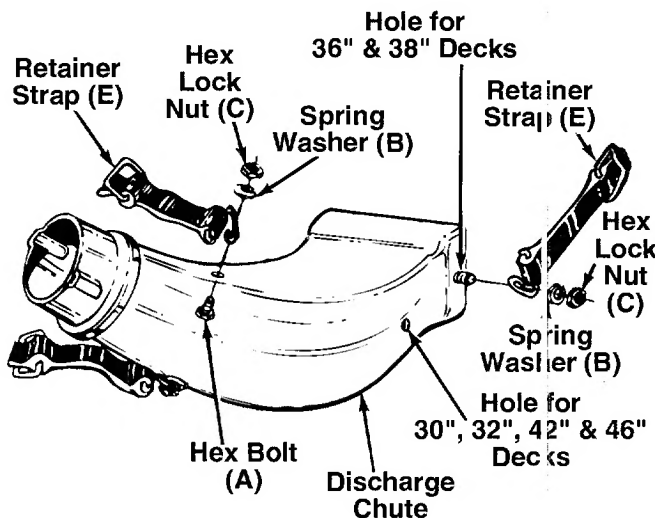

FIGURE 7.
2. Assemble two retainer straps (E) to the upper end of the discharge chute as shown in figure 7. Secure with hex bolts (A), spring washers (B) and hex lock nuts (C).
NOTE: When assembling the retainer strap to the lower portion of the discharge chute, select the proper hole location for your deck as shown in figure 7.
3. Assemble retainer strap (E) to the lower portion of the discharge chute, selecting proper hole as shown in figure 7. Secure with hex bolt (A), spring washer (B) and hex lock nut (C).